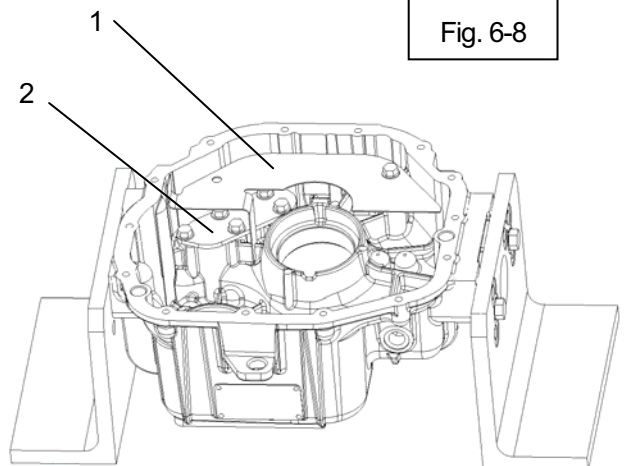

Fig. 6-8
(6) Removal of baffle and oil suction cover
Take the baffle and the suction cover out of the housing (Fig.6-8, item1 and 2).